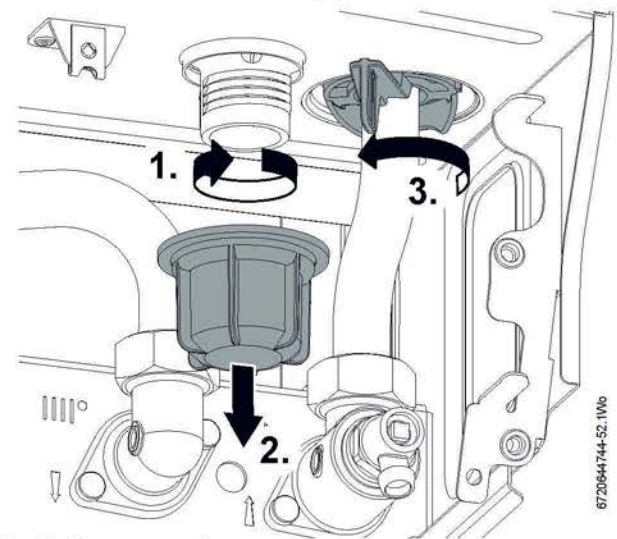

Fig. 91 Sump connections
1. Refer to figure 91 and unscrew the plastic nut.